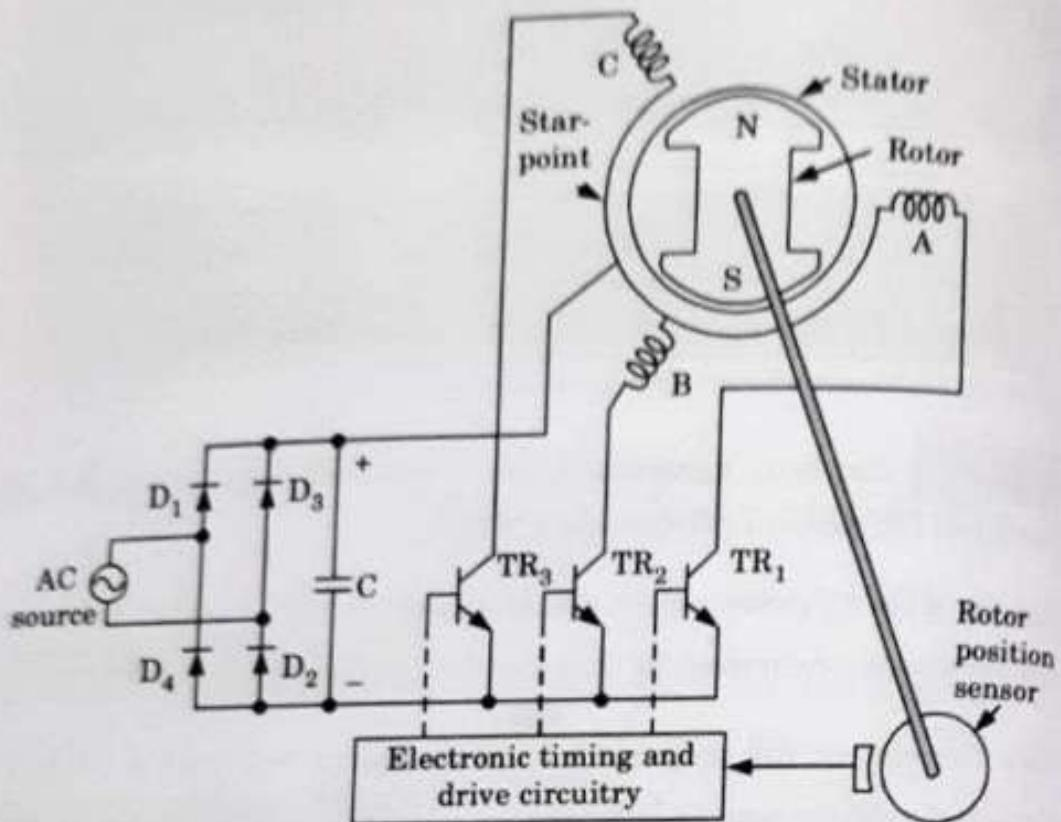

Fig. 4.8.1. Three-phase three-pulse brushless DC motor.
1. Fig. 4.8.1 shows an elementary form of 3-phase, 3-pulse brushless DC motor along with its electronic controller.